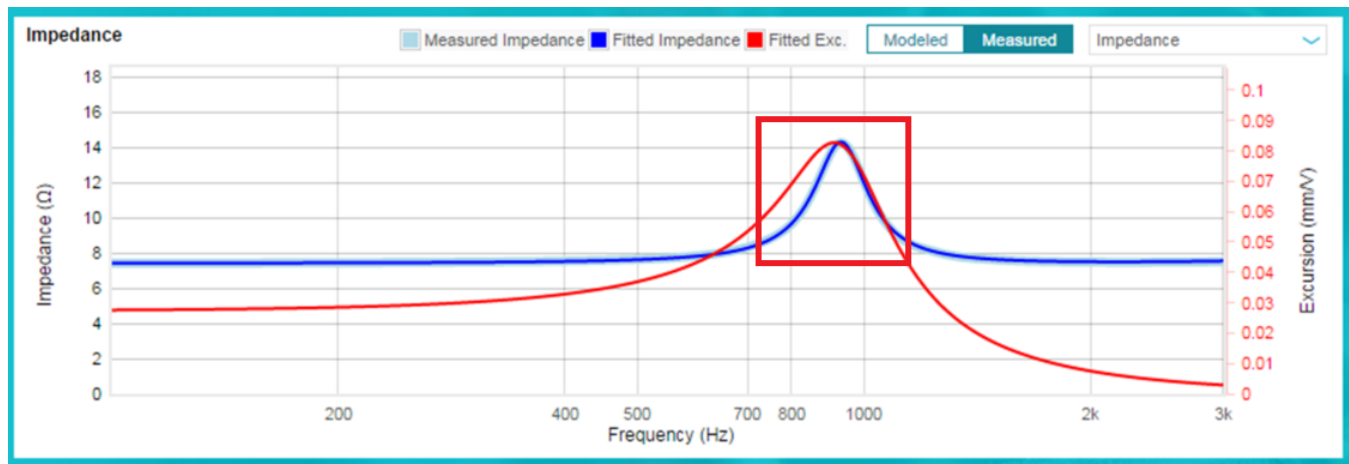

Figure 17. Impedance and Excursion Plot
- The Impedance and Excursion plot will look similar to Figure 17. In this plot, ensure there is a defined peak at the resonance frequency of the speaker as can be seen circled below. Please also ensure the Impedance plot matches the plot in the speaker data sheet. If the resonance frequency is below the specified value on the speaker data sheet, this could indicate that there is a leak on the speaker box. If there is more than one resonance frequency, it could mean that the speaker box has a port or a passive radiator.